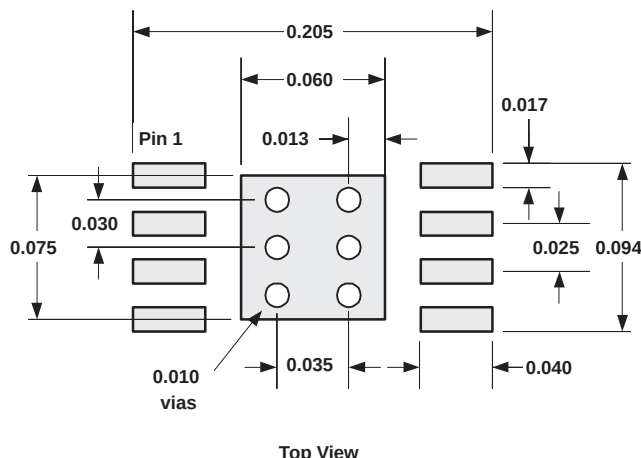

**Figure 63. DGN PowerPAD PCB Etch and Via Pattern**
1. Prepare the PCB with a top side etch pattern as shown in Figure 63. There should be etch for the leads as well as etch for the thermal pad.